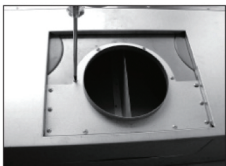

Fig. 3a
- Replace the 6" round duct with half round section duct. **(Fig. 3a – 3b)**